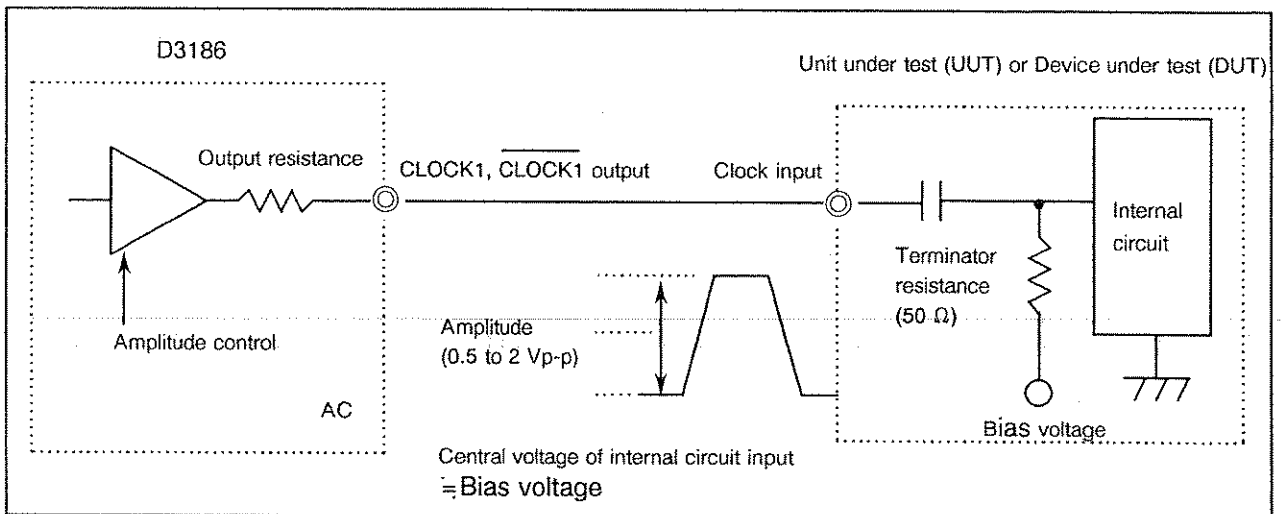

Figure 4-6 CLOCK1 and  $\overline{\text{CLOCK1}}$  Output, AC Connection
- (2) When the UUT/DUT clock input connection is AC:
- (a) To use variable UUT/DUT clock input amplitude (see Figure 4-6.):